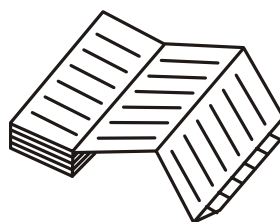

Fig. 3
3. As shown in Fig. 3, insert the recording paper with the “begin” tab placed in the cartridge. Check that the printed side is facing out.
Turn the power switch ON. The ink pen will move inward on the circular recording paper and stop temporarily at the 0% position (equivalent to the 40°C line). Then the ink pen will move to the position which indicates the measured temperature.(Fig.3)